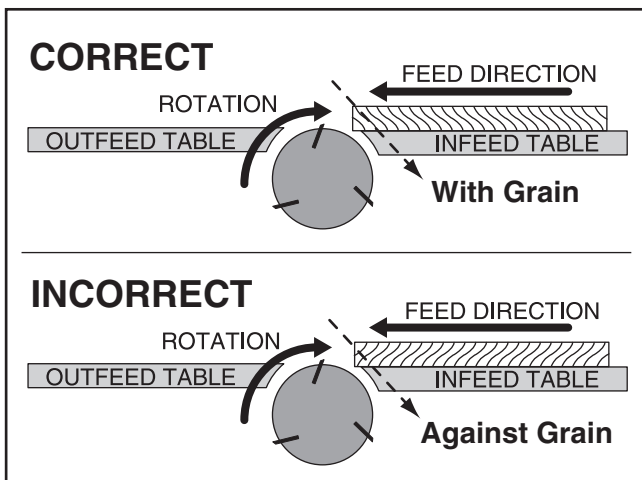
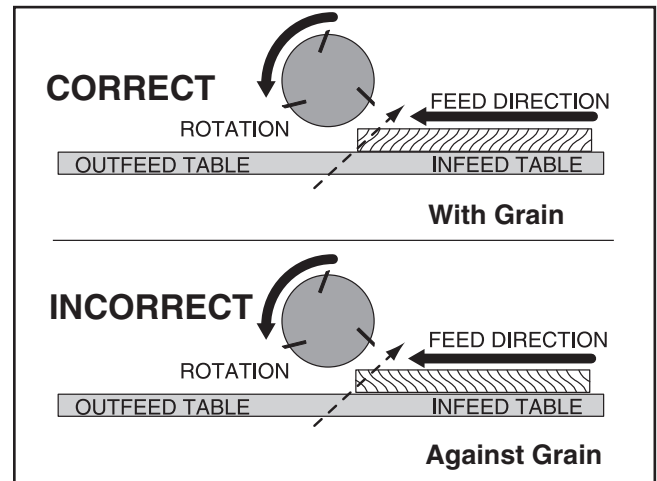

Figure 27. Correct and incorrect grain alignment to cutterhead (jointer).
Figure 28. Correct and incorrect grain alignment to cutterhead (planer).
- **Jointing and surface planing with the grain produces a better finish and is safer for the operator.** Cutting with the grain is described as feeding the stock so the grain points down and toward you on the jointer (Figure 27) or away from you on the planer (Figure 28), as viewed from the edge.